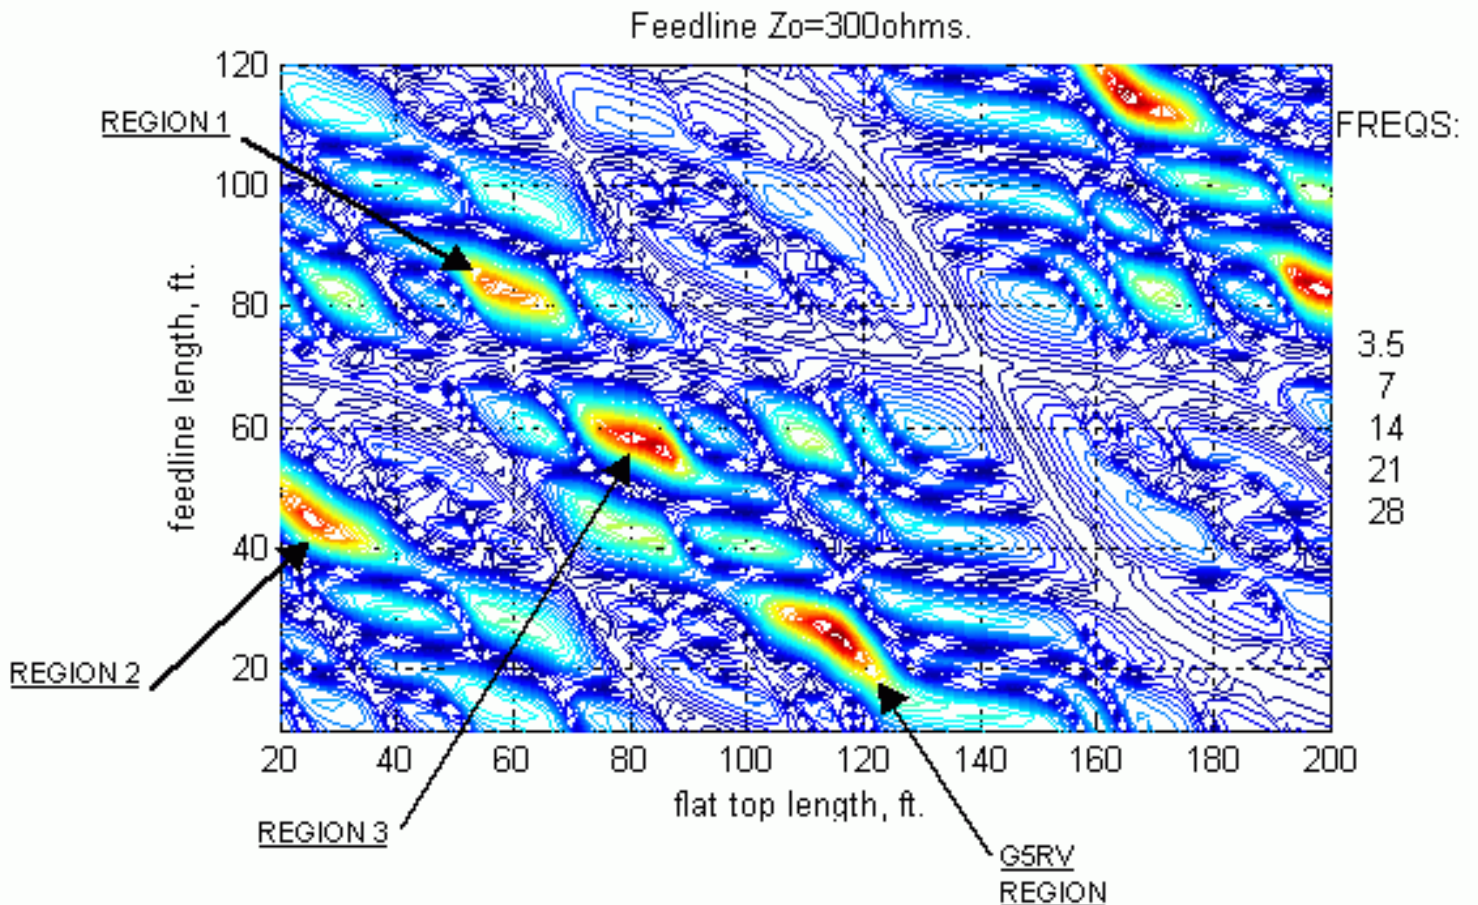

Figure 1. Regions of Low RMS Input Reactance at Amateur Bands.
and a 2 1/2 wave in-phase pattern at 7 and 10mhz to that of a "long-wire" antenna at 14, 18, 21, 24 and 28mhz.Figure 1.
3.5Mhz. On this band each half of the "flat-top" plus about 17ft (5.18m) of each leg on the matching-section forms a fore-shortened or slightly folded up half-wave dipole. The remainder of the matching-section acts as an unwanted but unavoidable reactance between the electrical centre of the dipole and the feeder to the antenna tuner. The polar diagram is effectively that of a half-wave antenna. See figure 1.
An antenna system is more easily interfaced to a radio when the input reactance at the feedline terminals is low or close to series resonance. If a center fed dipole is fed with a length of low loss balanced transmission line, the input reactance is a function of both transmission line length and antenna length, and to reduce the reactance at selected frequencies there are optimum lengths of dipole and feedline. The G5RV antenna design is an example of selecting these lengths to produce near-series resonances at amateur operating frequencies from 3.5-28MHz. There are other combinations of feedline length and dipole length which reduce the overall reactance as shown below. The red regions of Figure 1 have low RMS reactance over the frequencies shown to the right of the figure.